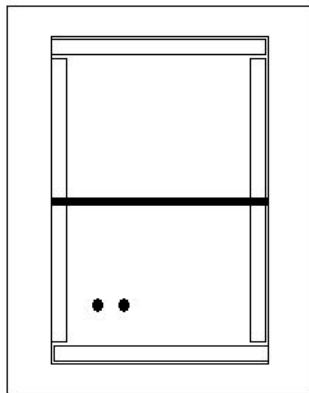

Figure 5
- Holes large enough to pass two parallel runs of coax cable can be used. boxes inside and outside use SO-239's connected to the coax cable (18) - see Figure 5. Loss for this short coax run will probably be ok, at least for QRP.